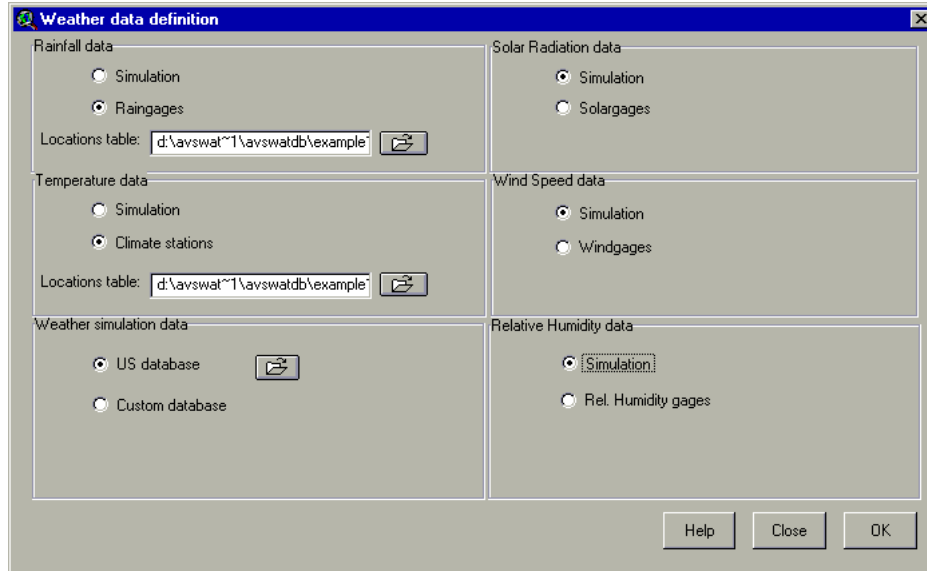

Figure 7.8
- 3. Once all weather data is specified and station locations are loaded, an **OK** button will appear in the lower right corner of the *Weather Data Definition* dialog box (Figure 7.8).